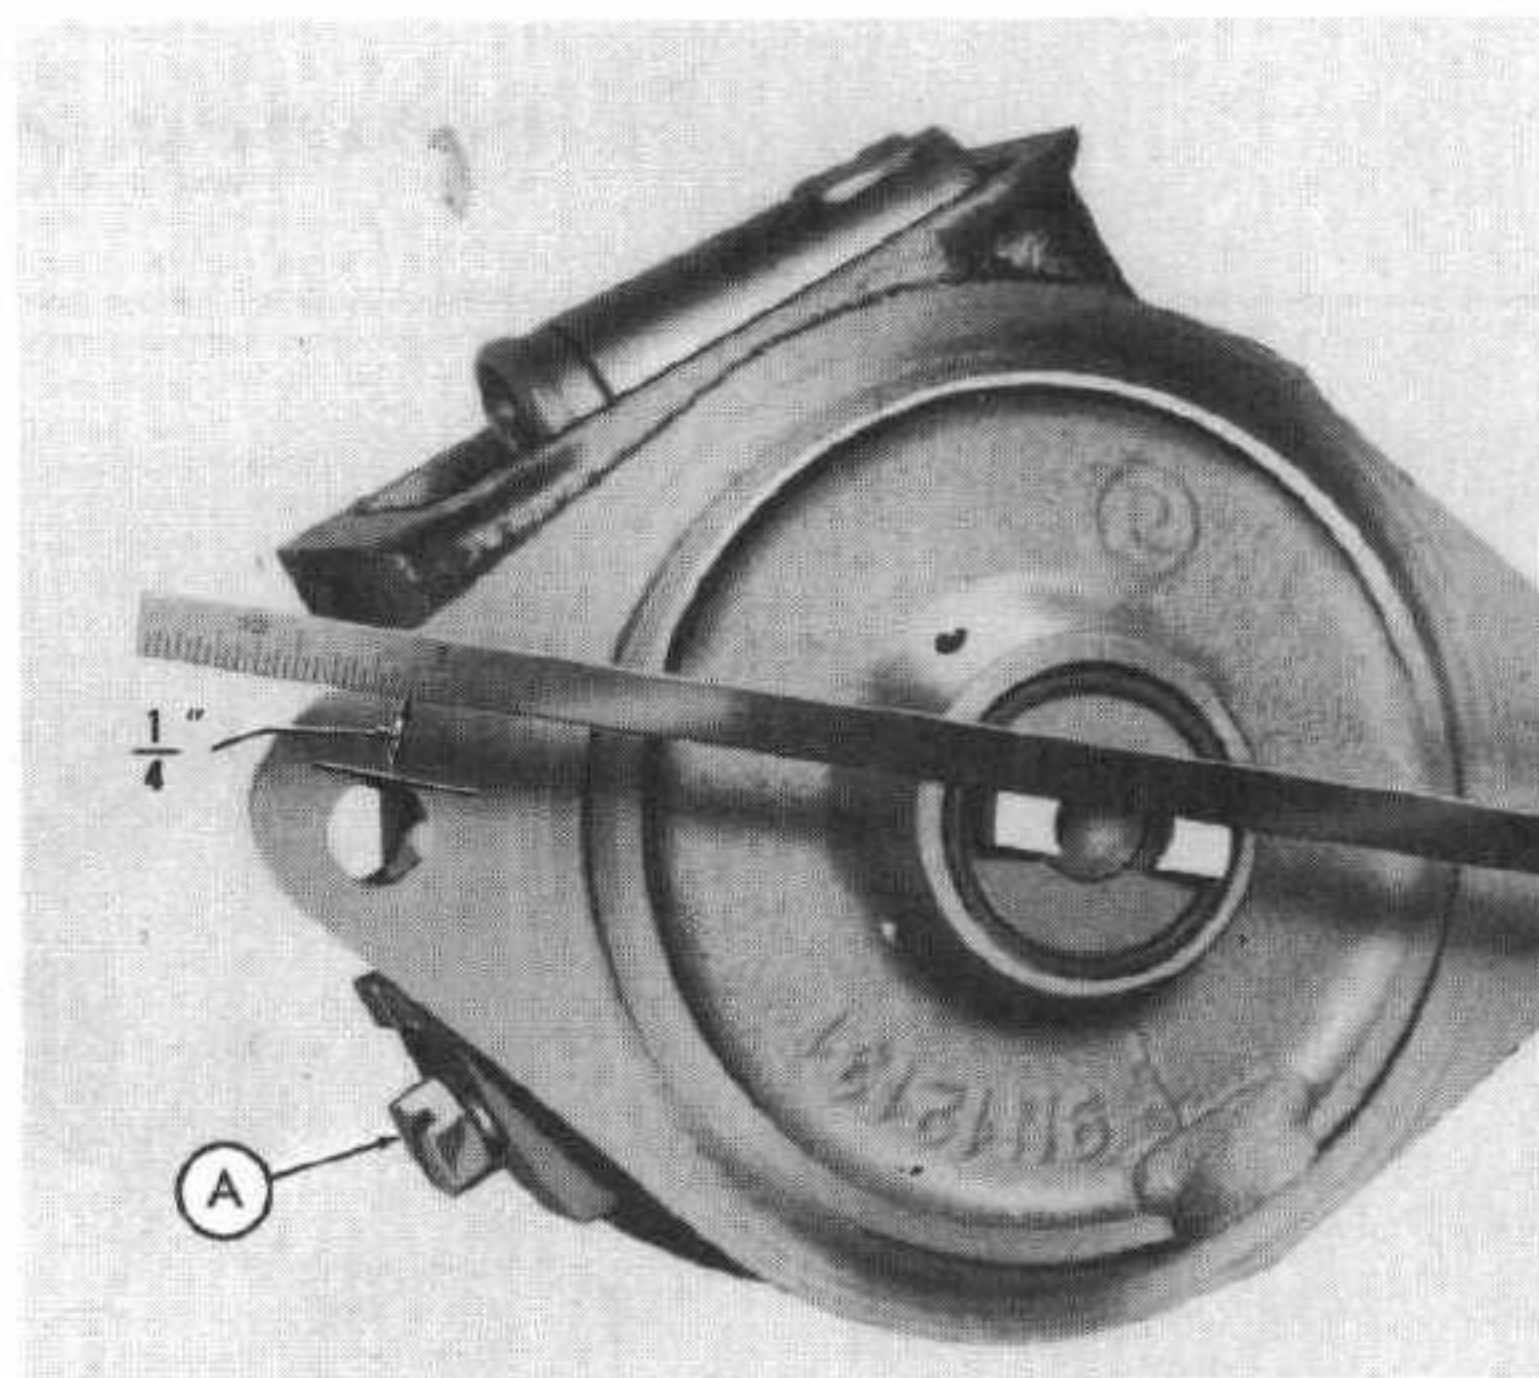

Fig. 3
Step 1—Place a steel scale against the shaft shank on the wide side of the shaft and rotate the shaft until the scale edge is $\frac{1}{4}$ inch from the top side of the small mounting hole as shown in Figure 3.
NOTE: If the contacts do not start to open with the shaft in the above mentioned position, loosen the timing screw (A-Figure 3) and move the timing plate and screw until the contacts start to open.
Step 3—Tighten the timing plate screw (A-Figure 3). Reassemble the distributor and install it on the tractor.